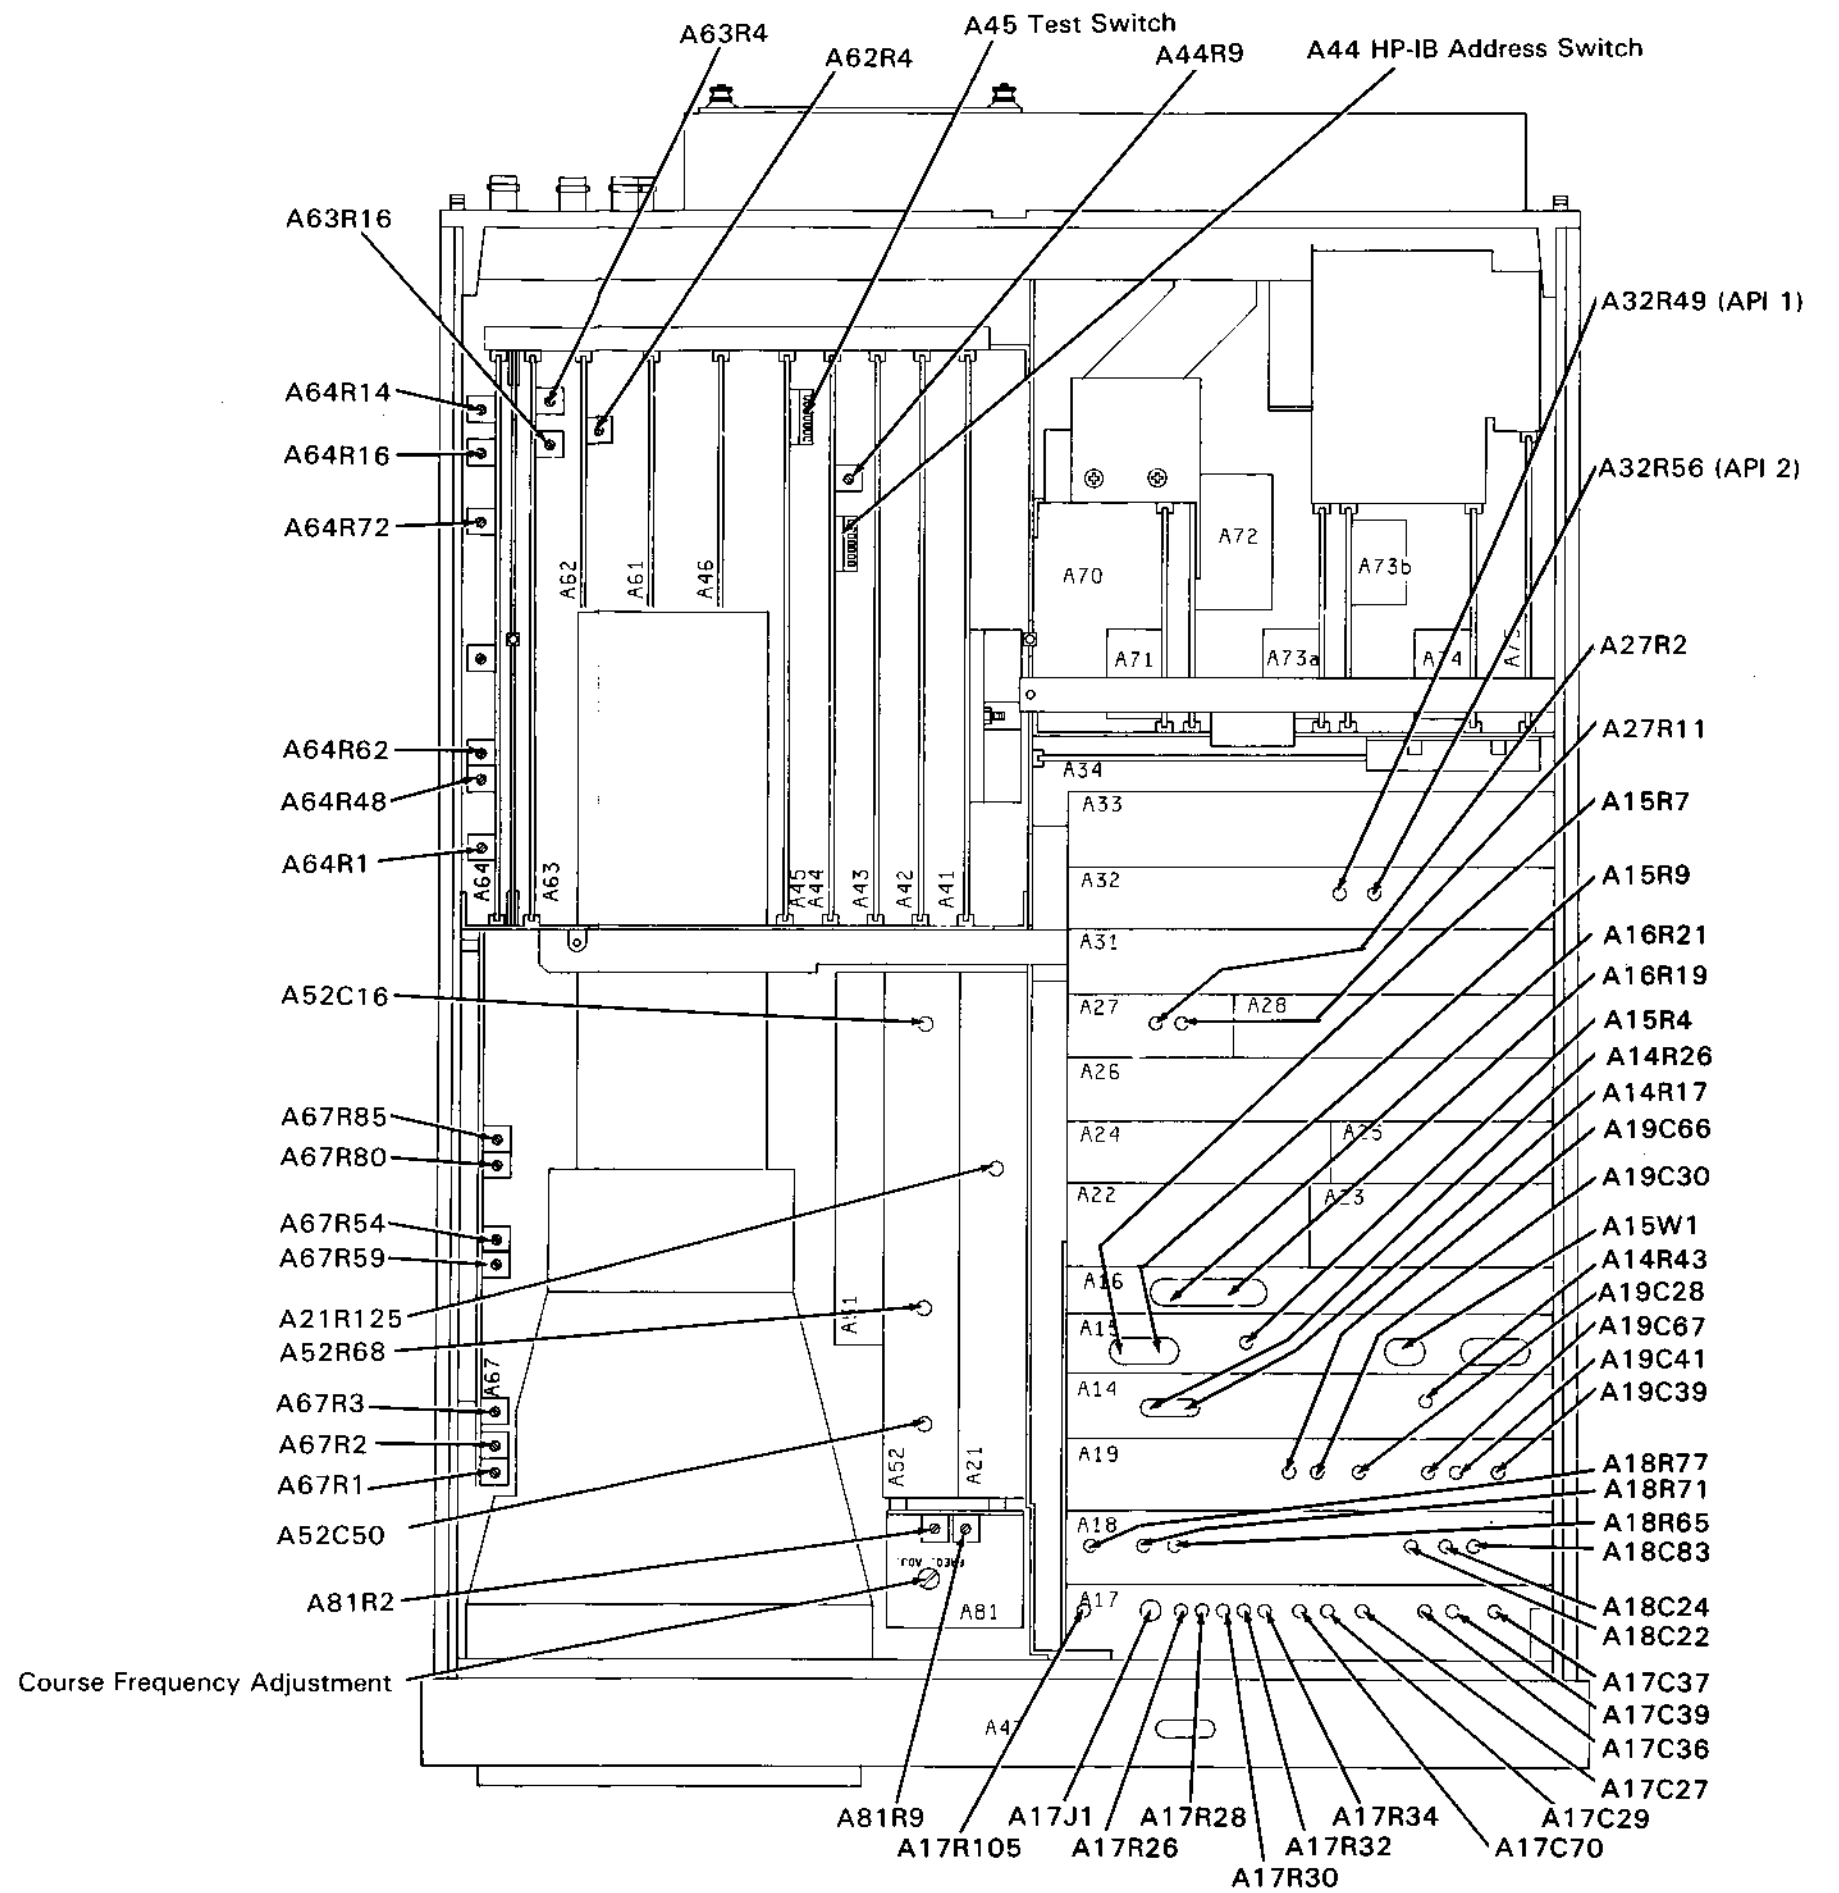

Figure 5-46. Top Of Instrument Adjustment Locations
- g. Adjust A44R9 (see Figure 5-46) for the voltage stamped on A44U16 $\pm 0.2V$.
- b. Adjust A62R4 (see Figure 5-46) for a dc voltage reading of $-10.24Vdc \pm 0.02V$.